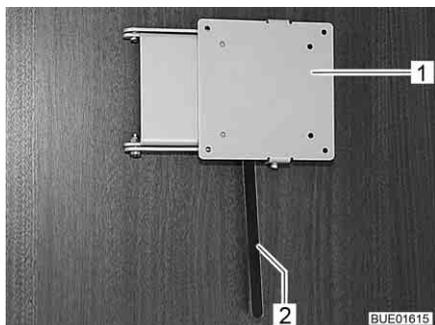

Fig. 106 Holder with release lever
- Push the release lever (Fig. 106,2) to the side and turn the holder (Fig. 106,1) with the flat screen to the desired position.
- Turn flat screen back until the holder (Fig. 106,1) engages in the lock.